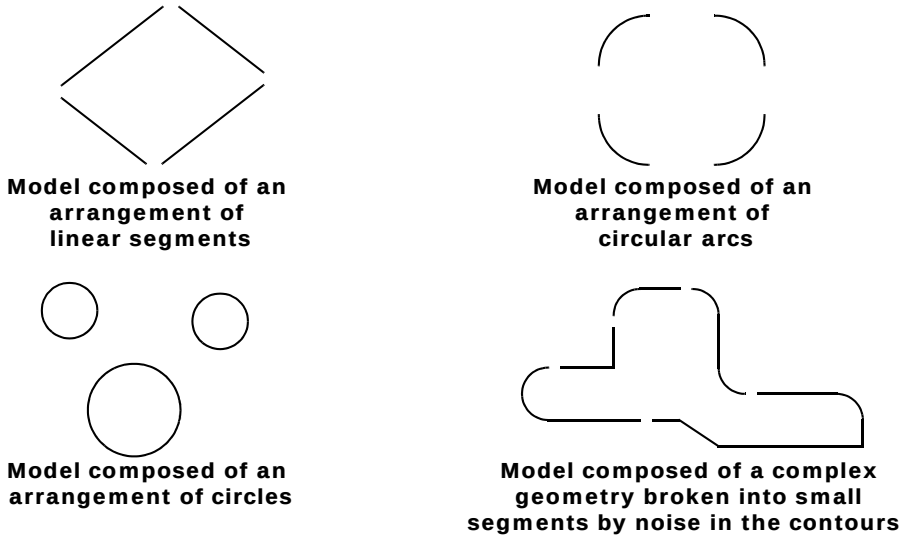

Figure 143 Model Defined with an Arrangement of Partial Transform Features
- Features that only define a partial Scale/Translation transform (complete circles, circular arcs, lines) can also be used but the arrangement of these features in the Model *must* define a *complete* Scale/Rotation/Translation transform as shown in Figure 143.